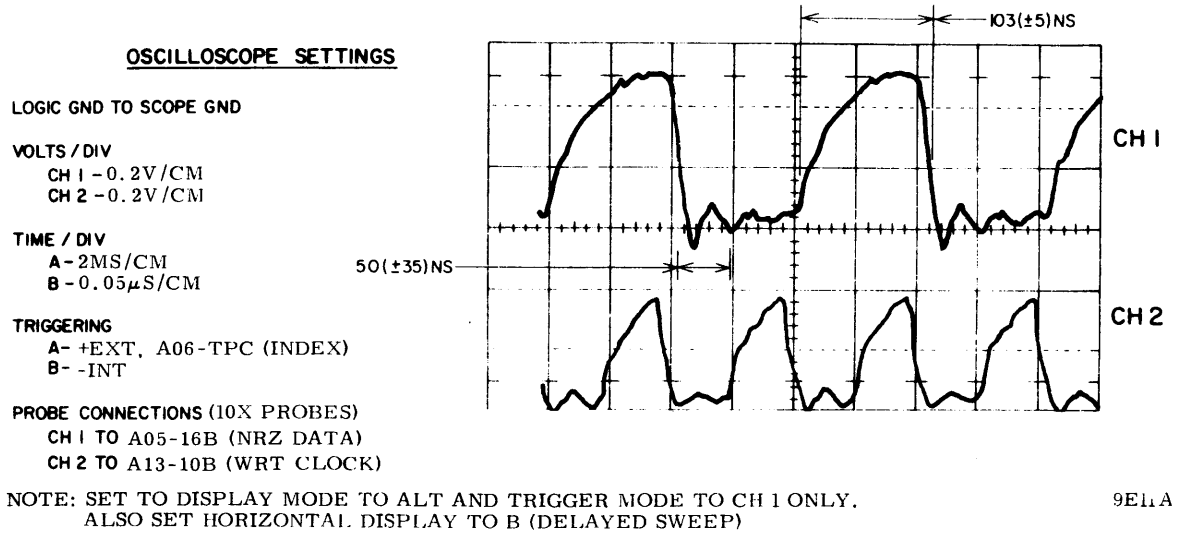

Figure 5-11. NRZ Write Data Input Waveform
- a. Connect and set up oscilloscope as shown in figure 5-11.
- b. Observe that signals have timing relationships as shown in figure 5-11.